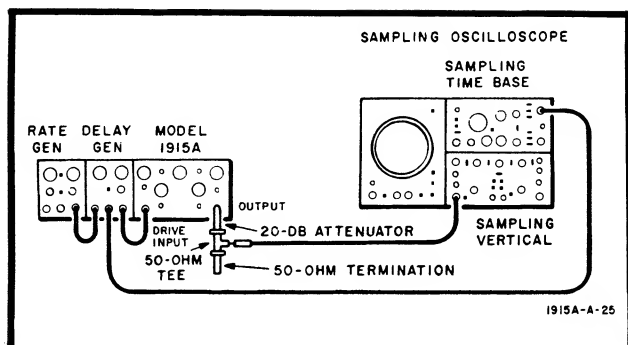

Figure 5-9. Sampling Oscilloscope Test Setup
- a. Connect equipment as shown in Figure 5-9.